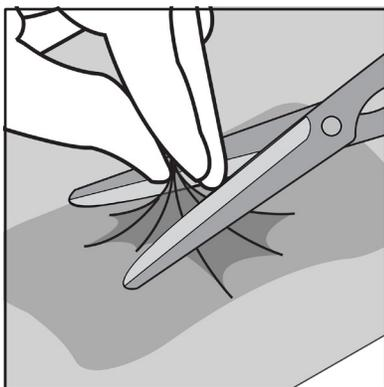

Figure 10
11. Cut a 1cm diameter hole in the top of the drape at a convenient location over the foam dressing by pinching and lifting the drape (**Figure 10**).